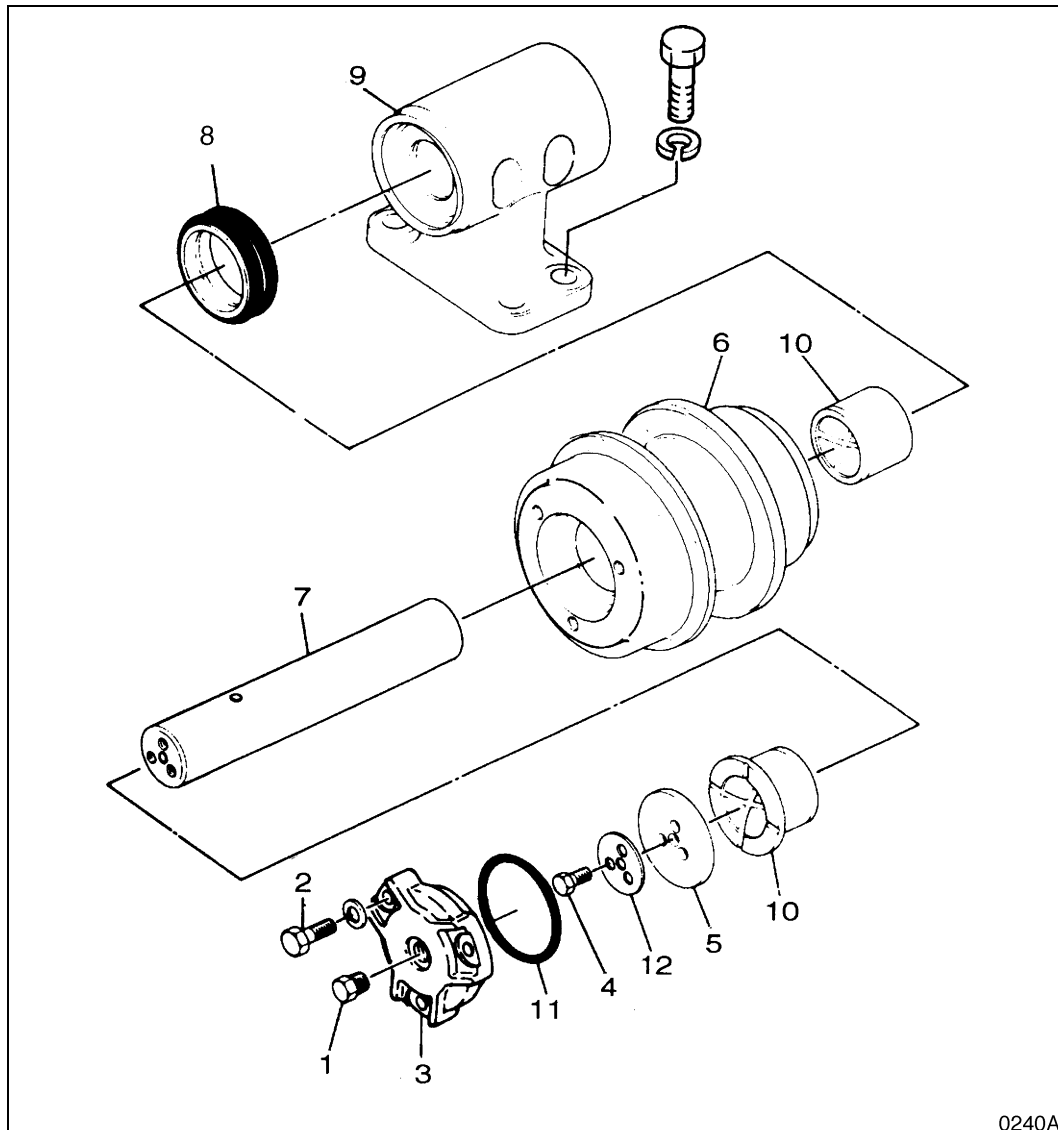

Figure 38
4. Attach group seal (8, Figure 38) to the roller (6, Figure 47) and cover (3).